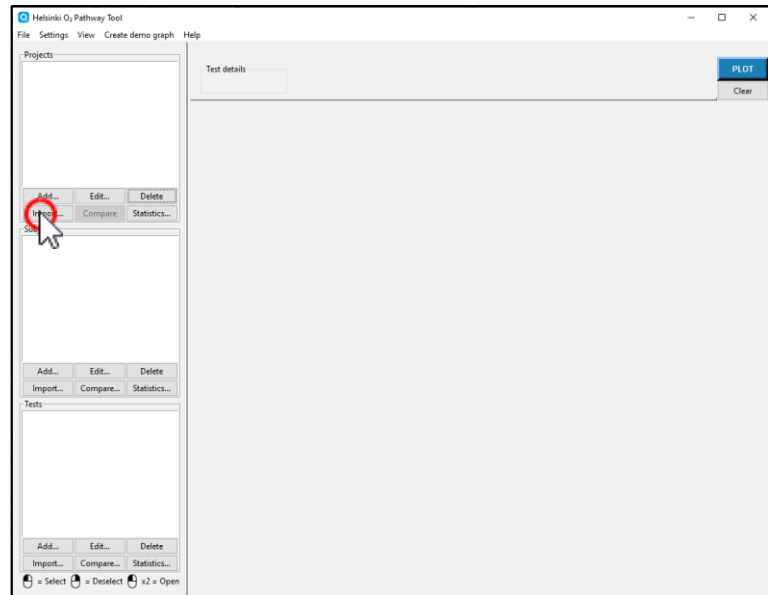

Figure 37
2. Click the "Import..." button in the side panel's projects module (figure 37).